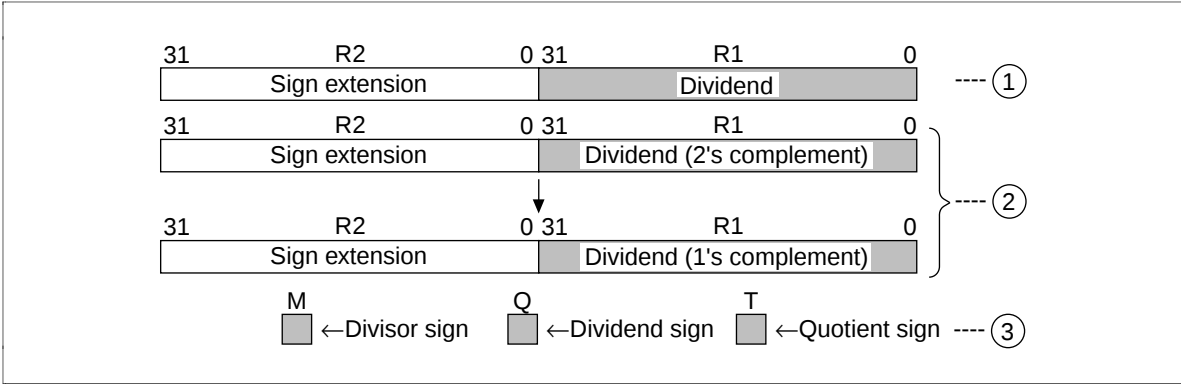

Figure 3.54 Initial Setting (DIVS32Q)
- 1. Takes R2's upper 32 bits and zero-extends the dividend to 64 bits (figure 3.54 (1)).
- 2. If the dividend is negative, converts it to 1's complement for handling by the one-step division instruction (figure 3.54 (2)).
- 3. Sets the M, Q and T bits used in one-step division to signed division values (M = divisor sign, Q = dividend sign, T = quotient sign) (figure 3.54 (3)).